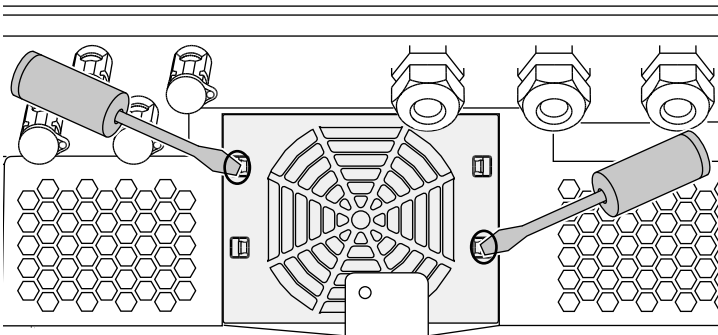

Fig. 72: Loosen fastening straps
3. Press the fastening straps toward the centre of the fan with a second screwdriver. Pull the fan unit slightly forward. ↗ **Fig. 72**